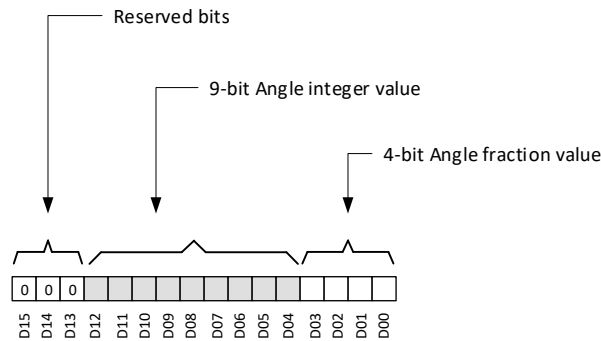

Figure 7-17. Angle Data Definition
The TMAG5173-Q1 calculates the angle from a pair of magnetic axes based off the ANGLE_EN register bits setting. Figure 7-17 shows the angle information stored in the ANGLE_RESULT_MSB and ANGLE_RESULT_LSB registers. Bits D04-D12 store angle integer value from 0 to 360 degree. Bits D00-D03 store fractional angle value. The 3-MSB bits are always populated as b000. Use Equation 14 to calculate the angle value.
- D_i is the data bit as shown in Figure 7-17.